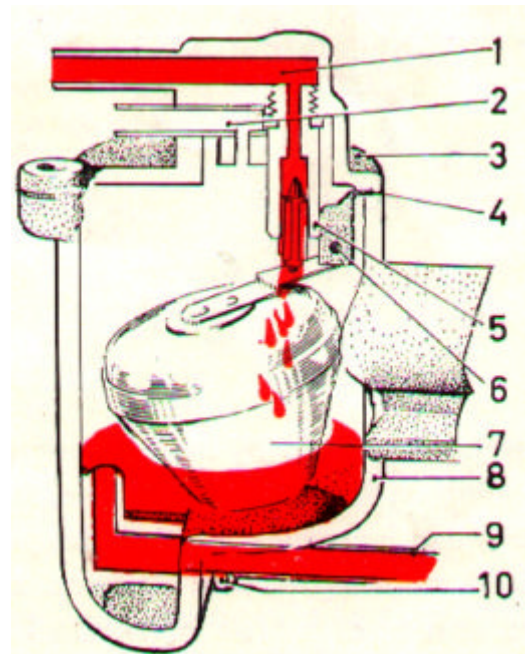

Fig. 81 Float
The floatchamber is attached to the carburettor housing by means of screws. The valve (5, Fig. 81) which is opened and closed by the float, is fitted in the cover. The fuel is taken to the lower end of the jet through a flexible hose from the Lower part of the floatchamber (9).